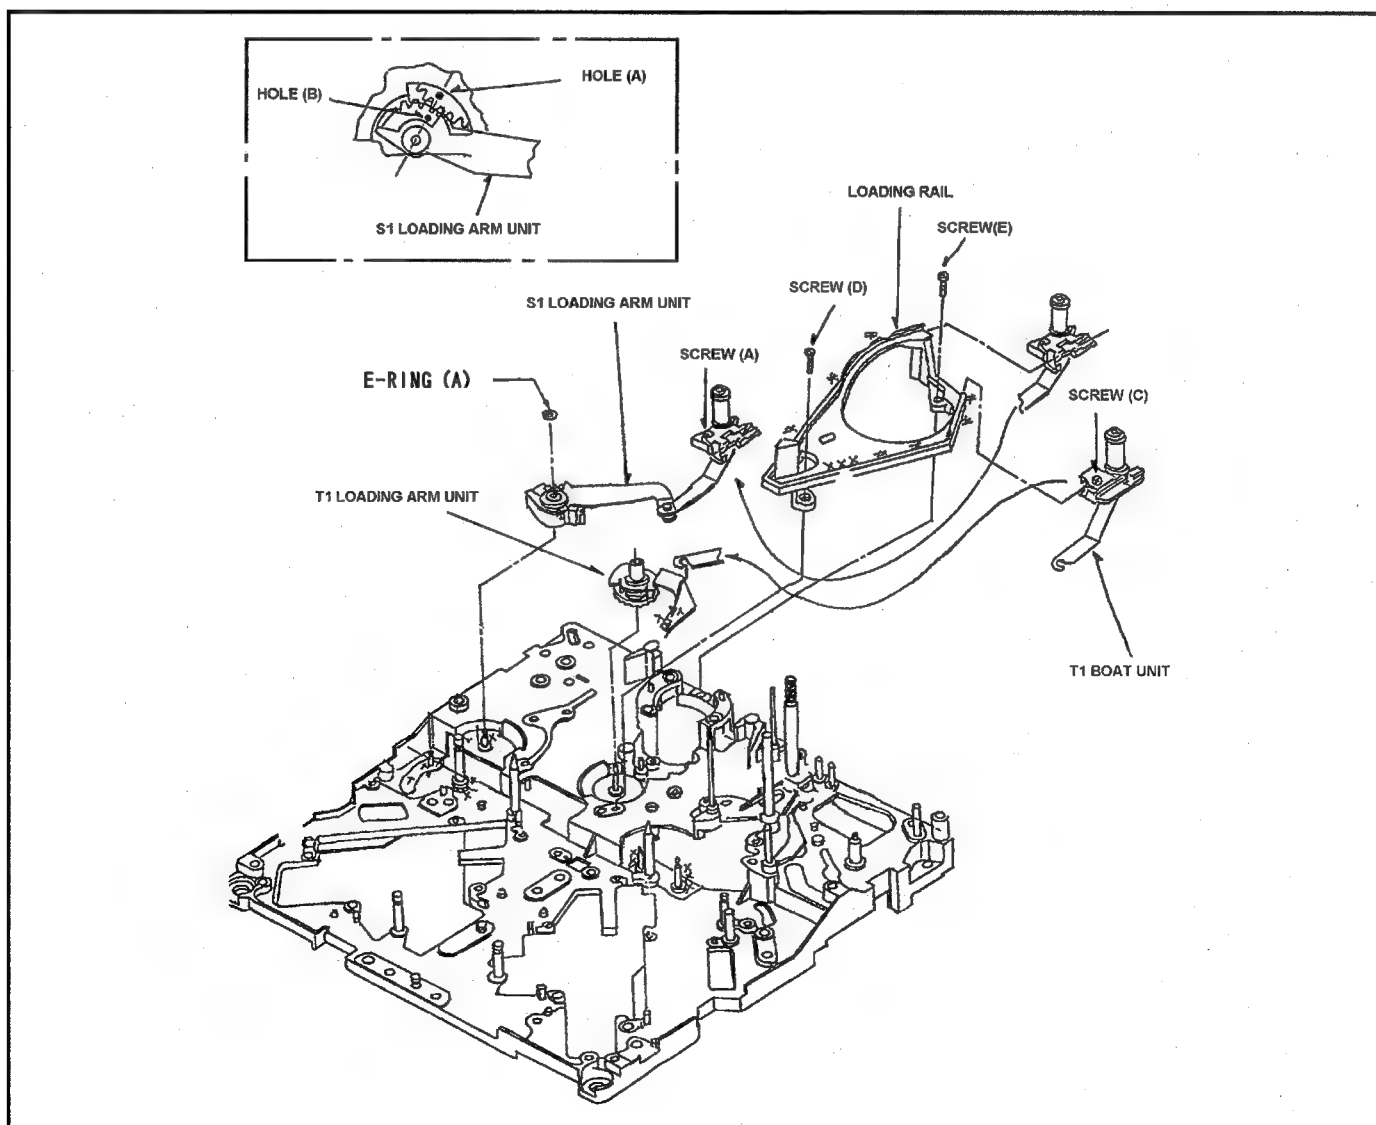

Fig. 10-10-1 Removal of S1 Post Loading Arm Unit
3. Unscrew the **screws (C)**, and remove the T1 Post from Loading Rail as shown in Figure 10-10-1.
4. Remove the T1 Boat Unit from T1 Loading Arm Unit as shown in Figure 10-10-1.